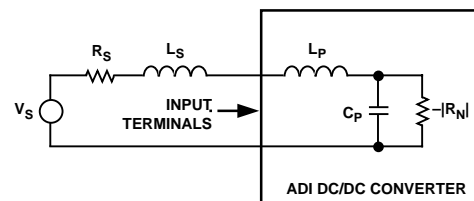

Figure 23. Model of Power Source and POL Converter Connection
**Potential System Instability:** The preceding analysis assumes dc voltages and currents. For ac waveforms the incremental input model for the POL converter must also include the effects of its input filter and control loop dynamics. When the POL converter is connected to a power source, modeled as a voltage source,  $V_S$ , in series with an inductor,  $L_S$ , and some positive resistor,  $R_S$ , the network of Figure 23 results.
The network shown in Figure 23 is second order and has the following characteristic equation: